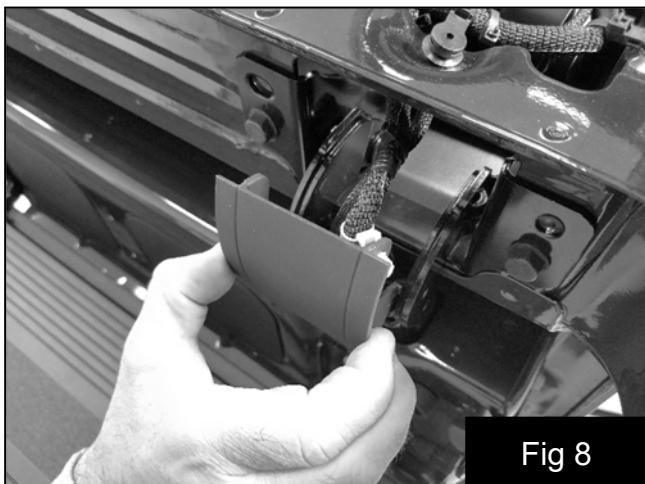

Fig 8
12. Fold the inner tailgate section down and snap loose the plastic hinge cover on the passenger side to aid in harness routing. Fig 8